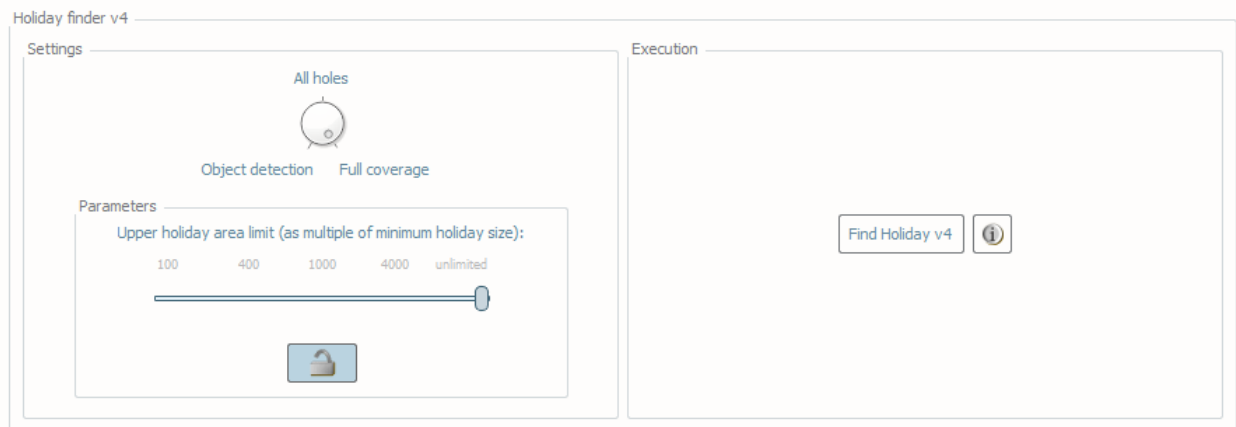

Fig. 2.14: The **Detect holidays** tab.
- Select the **Detect holidays** tab (Fig. 2.14) on the bottom of the QC Tools interface.